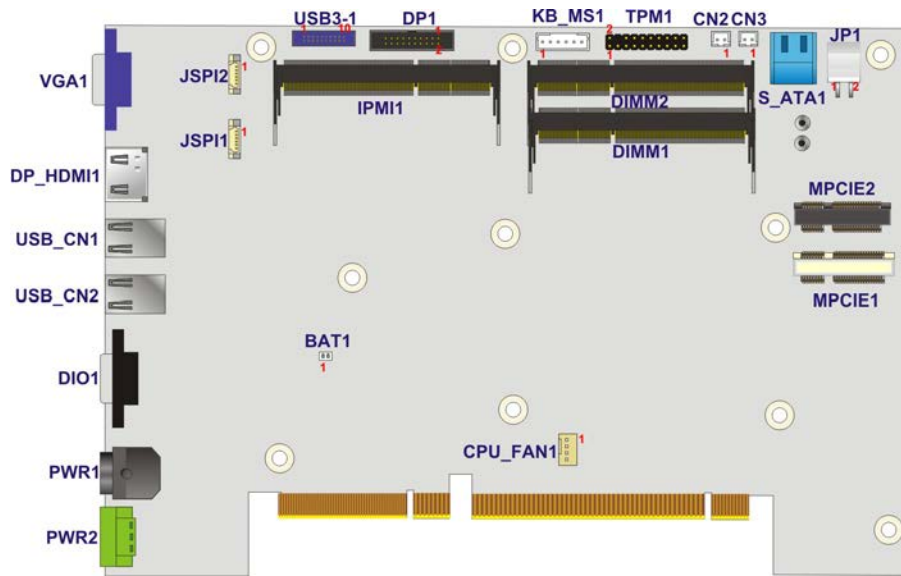

Figure 4-1: System Motherboard (Front)
Step 1: Install an iRIS-2400 module to the IPMI module socket (refer to **Figure 4-1**).